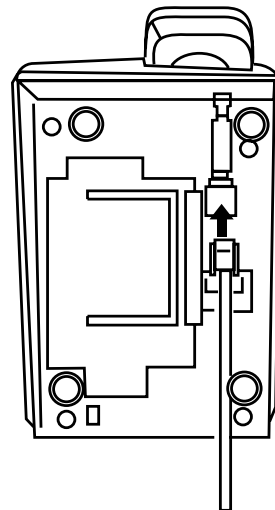

Fig. C.3.3
- (2) After installing the connection cable to the telephone set, extend the connection cable (Fig. C.3.3.)